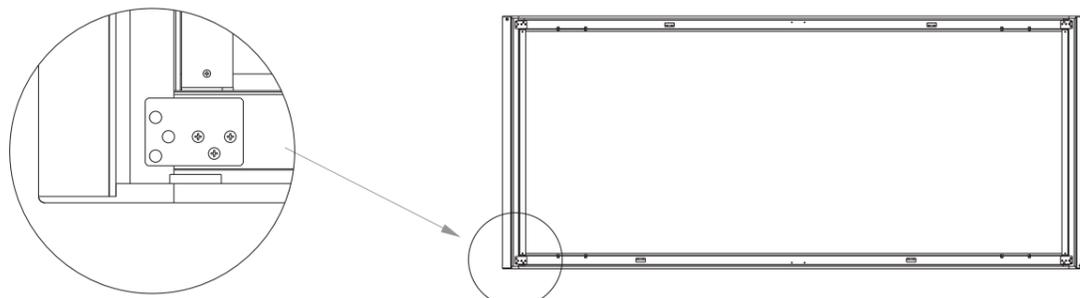

figure 3
3. The installation of right bar is the same as left bar. The installation has been completed (figure 3).